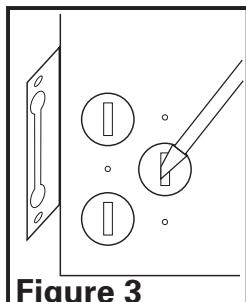

Figure 3
5. Remove the electrical knockouts using a straight-blade screw driver (Figure 3).